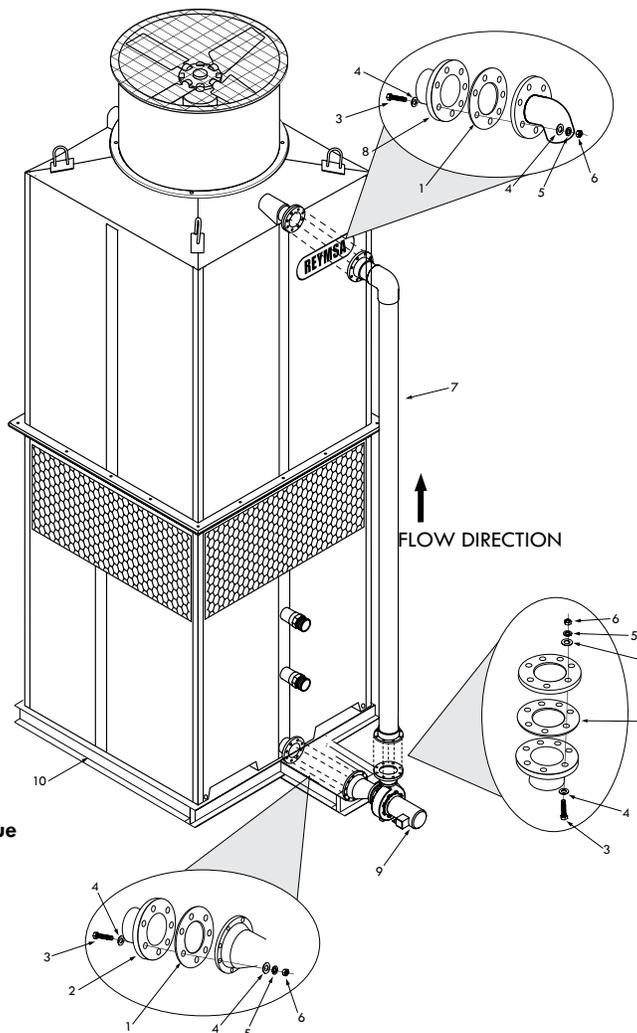

Figure A-33 - Spray pump and water return pipe assembly to tower
2. Check to make sure that the piping is aligned to the spray pump in a straight line position (see Figure A-33).